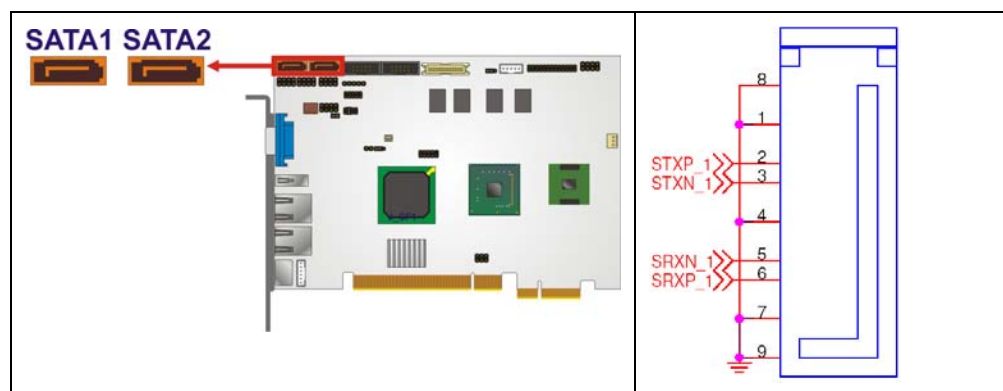

Figure 4-14: SATA Drive Connector Locations
- CN Location:** See Figure 4-14